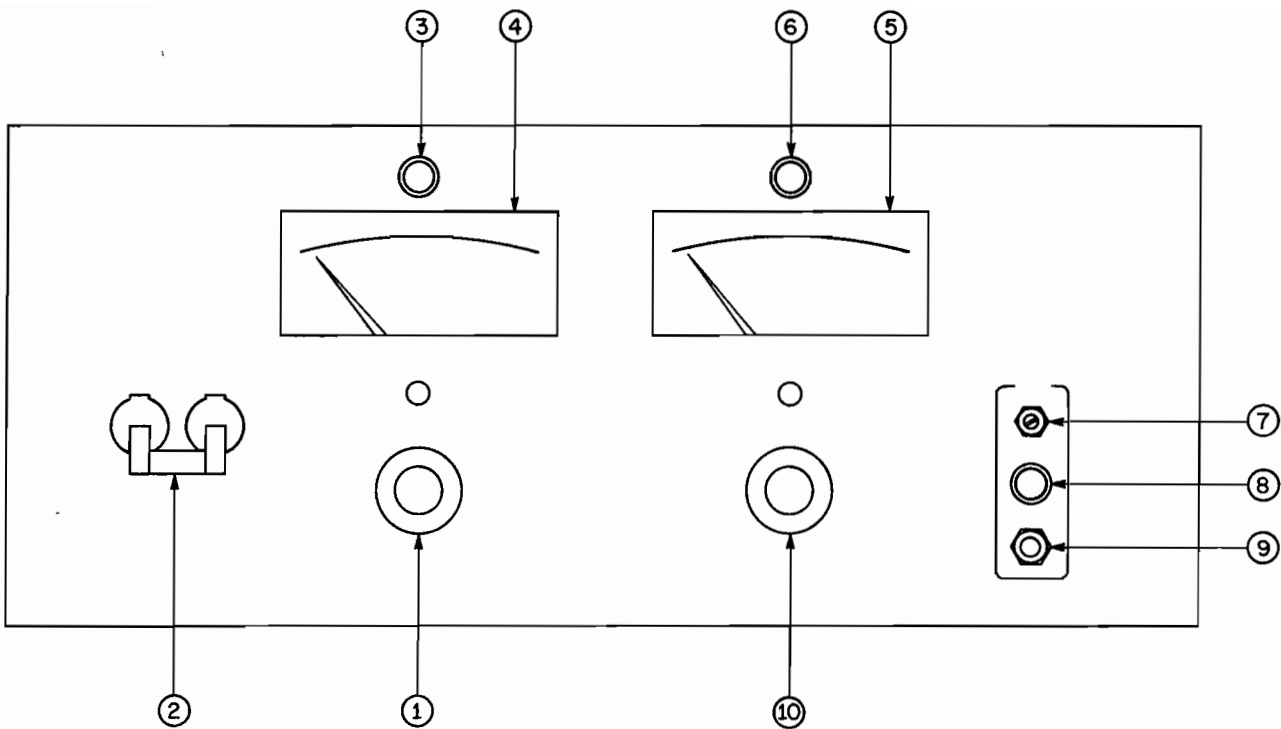
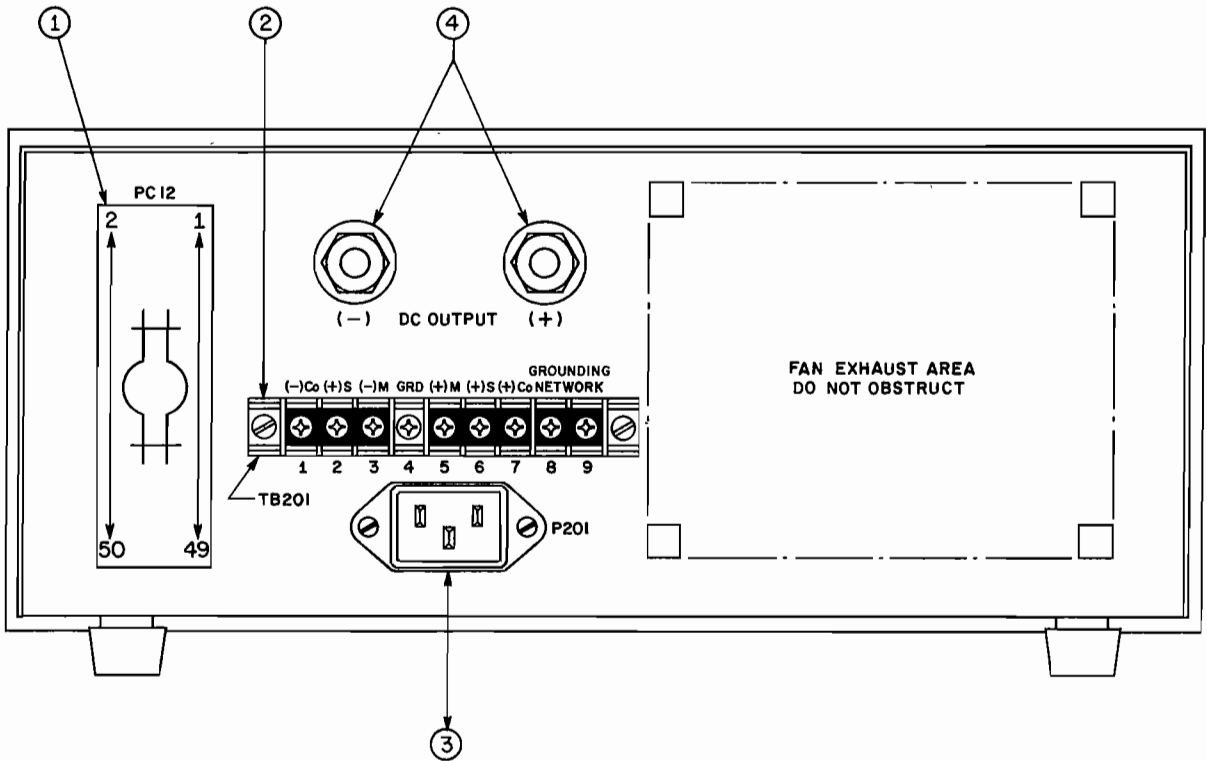

FIG. 2-2 CONTROL AND TERMINATIONS, ATE 3/4 RACK GROUP, FRONT.
FIG. 2-3 TERMINATIONS, ATE 3/4 RACK GROUP, REAR.
- a) FRONT PANEL: Refer to FIG. 2-2 and Table 2-2.
- b) REAR: Refer to FIG. 2-3 and Table 2-3.
2-9 A simple operating check after unpacking and before permanent installation is advisable to ascertain whether the power supply has suffered damage resulting from shipment. Refer to FIG. 2-2 and to FIG. 2-3 for the location of the operating controls and output terminals.
**A resistor/capacitor network is connected from the negative monitor terminal to the metal chassis of the power supply. If this internal network is *not* desired, the connection to the chassis can be opened by removing the link (8)-(9) on TB201 (See FIG. 2-3).**